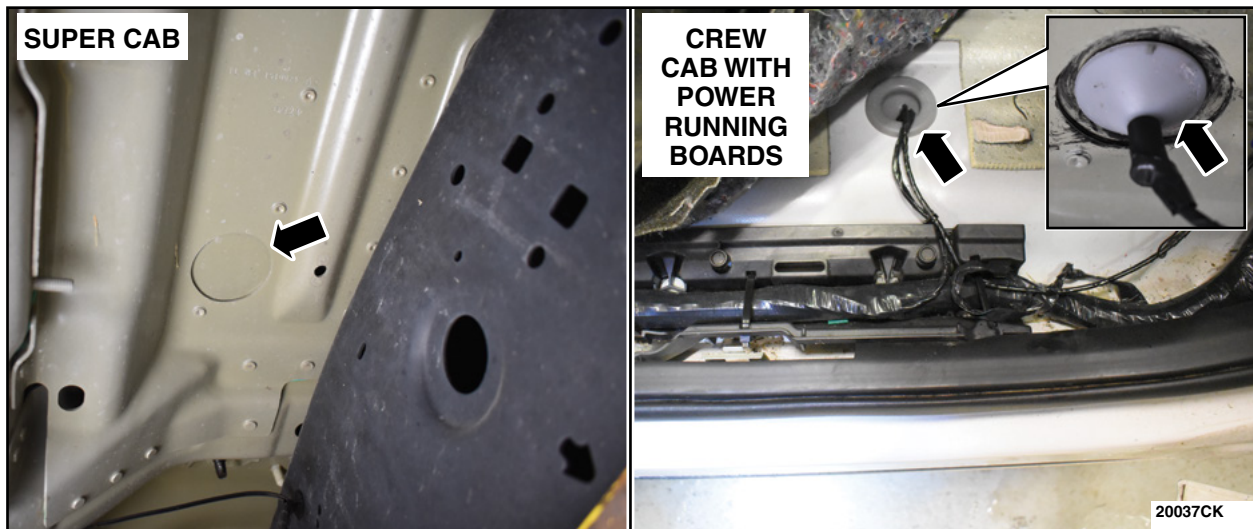

FIGURE 93
84. **Super Cab** vehicles have no hole present on the front passenger floorboard. **Crew cab** vehicles equipped WITH power running boards have a grommet located on the front passenger floorboard. **Crew Cab** vehicles WITHOUT power running boards have a plug on the front passenger floorboard. See Figure 93.